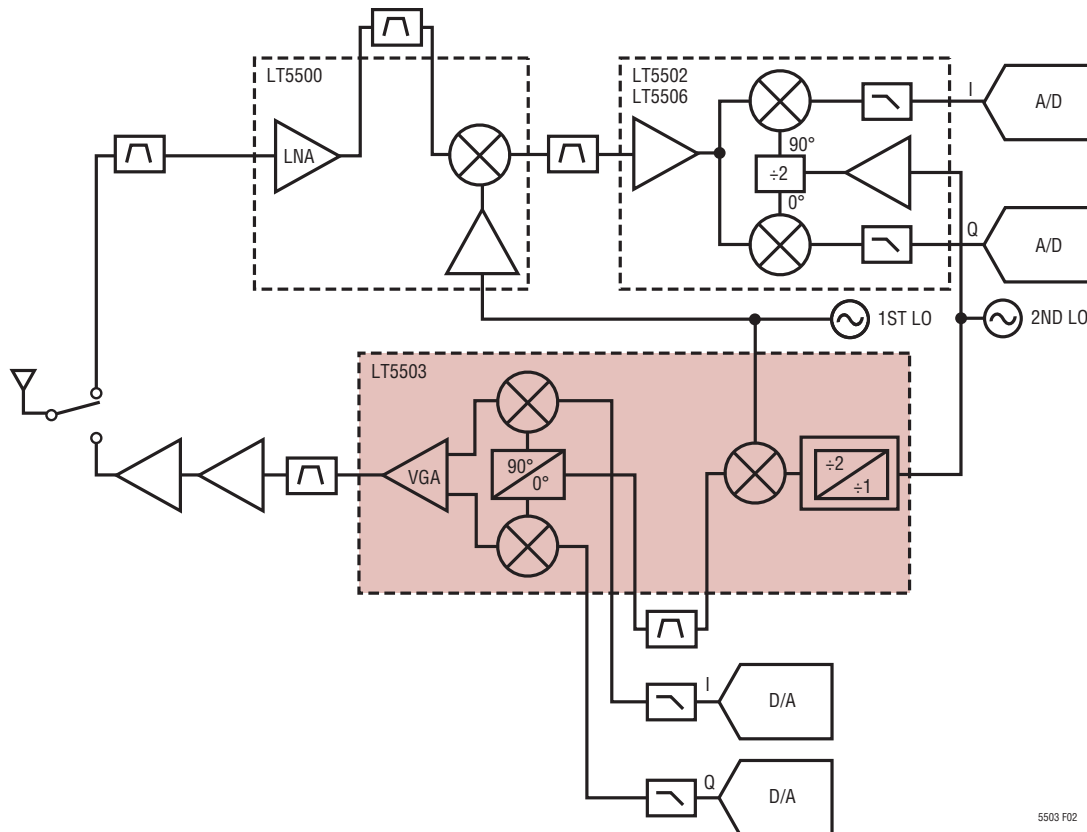

Figure 2. Example System Block Diagram for a Dual Conversion System
2.4GHz matching, MIXEN = high, DMODE = low (LO2 ÷ 2 mode), LO2IN = 750MHz at -18dBm, LO1IN = 2075MHz. MIXRFOUT measured at 2450MHz, unless otherwise noted. (Test circuit shown in Figure 2.)
$V_{CC2} = 3VDC$, MIXEN = high, DMODE = low (LO2 ÷ 2mode), $T_A = 25^\circ C$, unless otherwise noted. (Test circuit shown in Figure 2.)
A dual-conversion RF system requires two local oscillators to convert signals between the baseband and RF domains (see Figure 2). The LT5503's double-balanced mixer can be used to generate the LT5503 modulator's high frequency carrier input (MODRFIN) by mixing the systems 1st and 2nd local oscillators (LO1 and LO2). In this case, a band-pass filter is required to select the desired mixer output for the modulator input. The mixer's RF differential output produces -12dBm typically at 2.45GHz and the modulator MODIN pin requires $\geq -16\text{dBm}$, driven single-ended. This allows approximately 4dB margin for bandpass filter